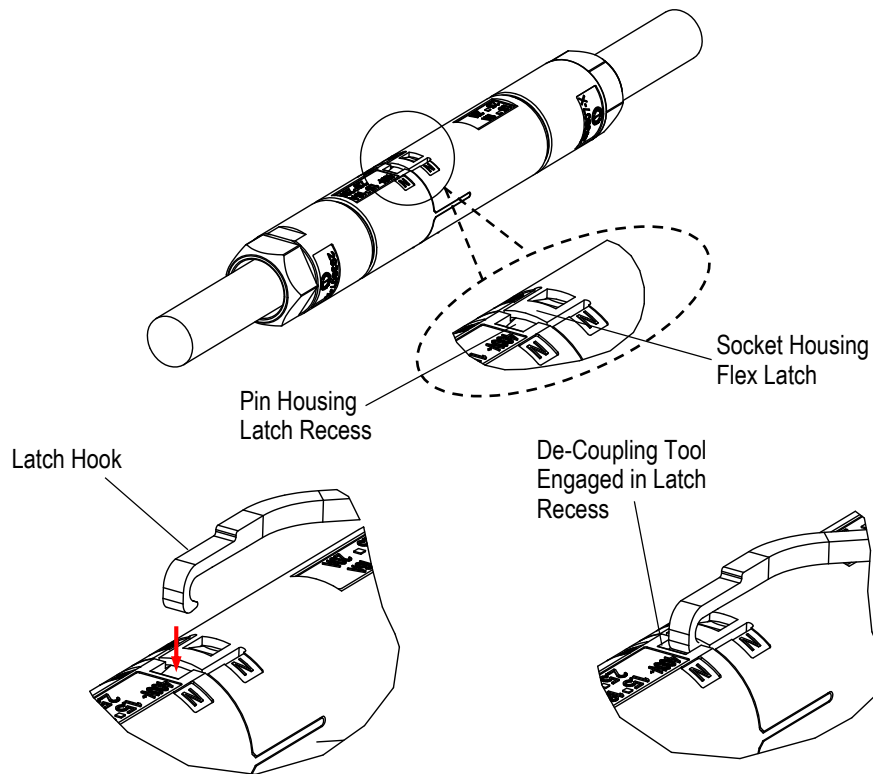

Figure 28
2. Latch hooks at end of de-coupling tool are inserted into latch recesses in pin housing. The recesses are located adjacent to the flex latches. The long arms of the de-coupling tool are flexible and will deflect to allow the latch hooks to install into the latch recesses in the pin housing (Figure 28).